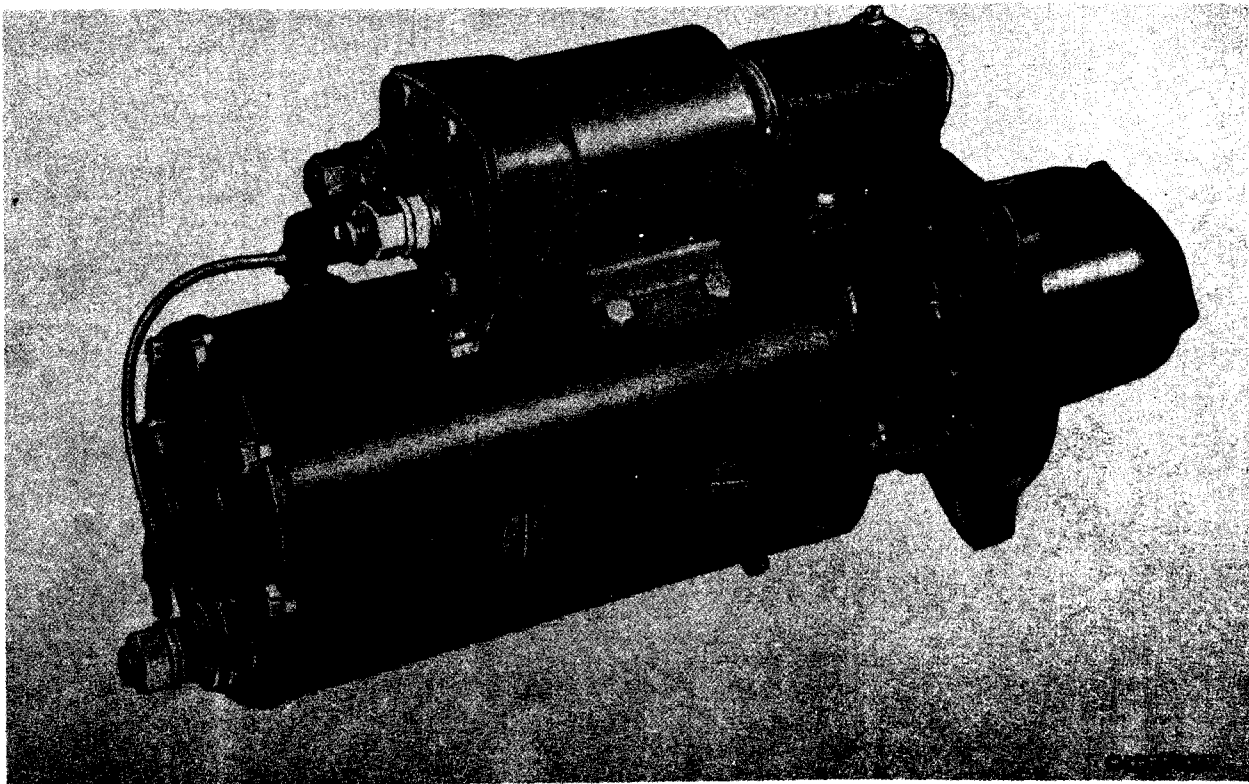

Figure 1-1 Starter assembly--assembled view.
a. This technical manual contains instructions for direct support, general support, and depot maintenance of the Starter assembly, ORD 10951385 (fig. 1-1). It contains descriptions of, and procedures for, troubleshooting, disassembly, inspection, repair and assembly of the starter.